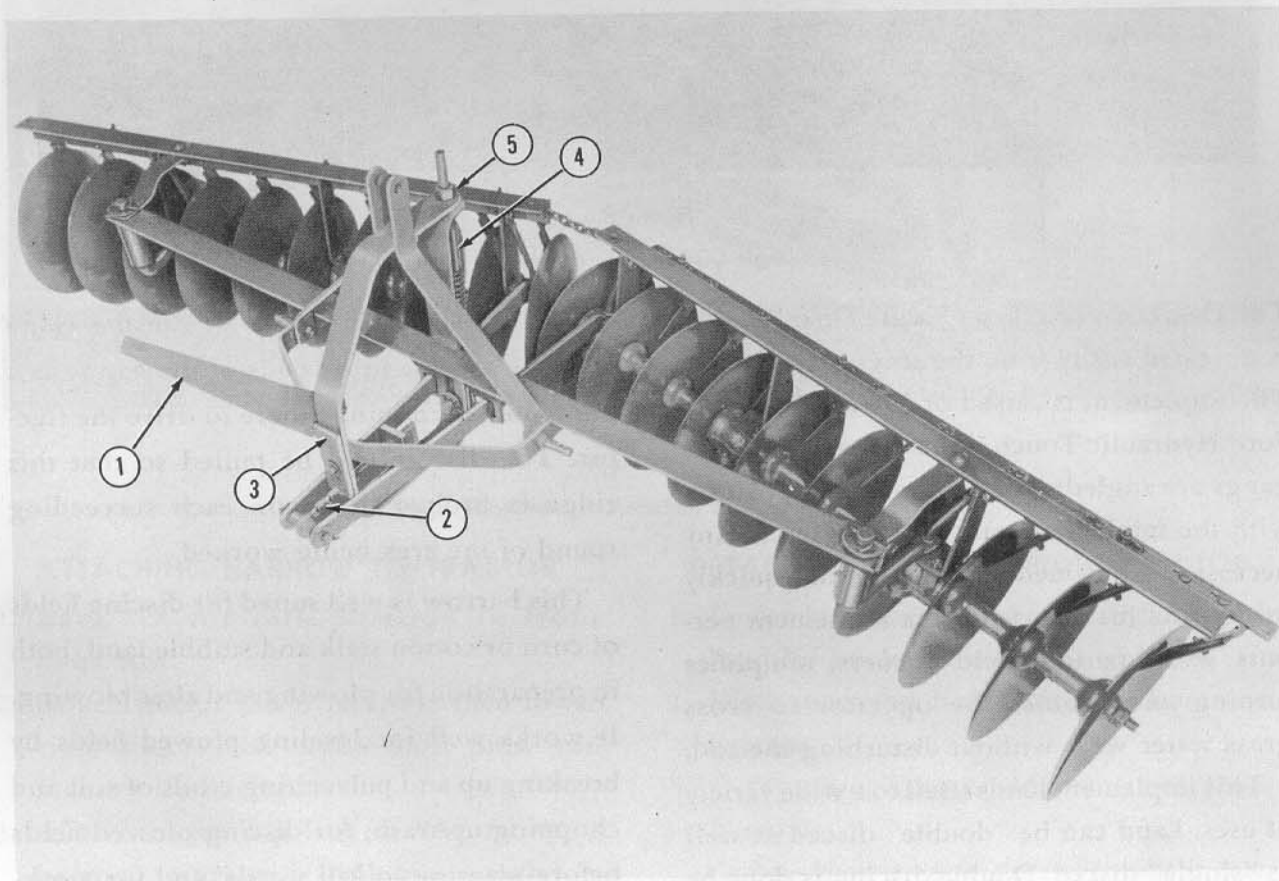

Figure 10
Setting Angle of Disc Gangs: The angle of the disc gangs is adjusted by means of the angling lever (1) and rack (2), Figure 10, on the lift frame. The design of the rack permits setting the disc gangs in four different positions. The maximum cutting angle of the disc gangs is obtained with the lock plate (3) in the front notch in the rack. The gangs are set at the minimum angle when the lock plate is in the rear notch of the rack.
Leveling the Gangs: The disc gangs are leveled to provide uniform depth of penetration by adjusting the tension on equalizer spring (4), Figure 10. This adjustment is made by tight-